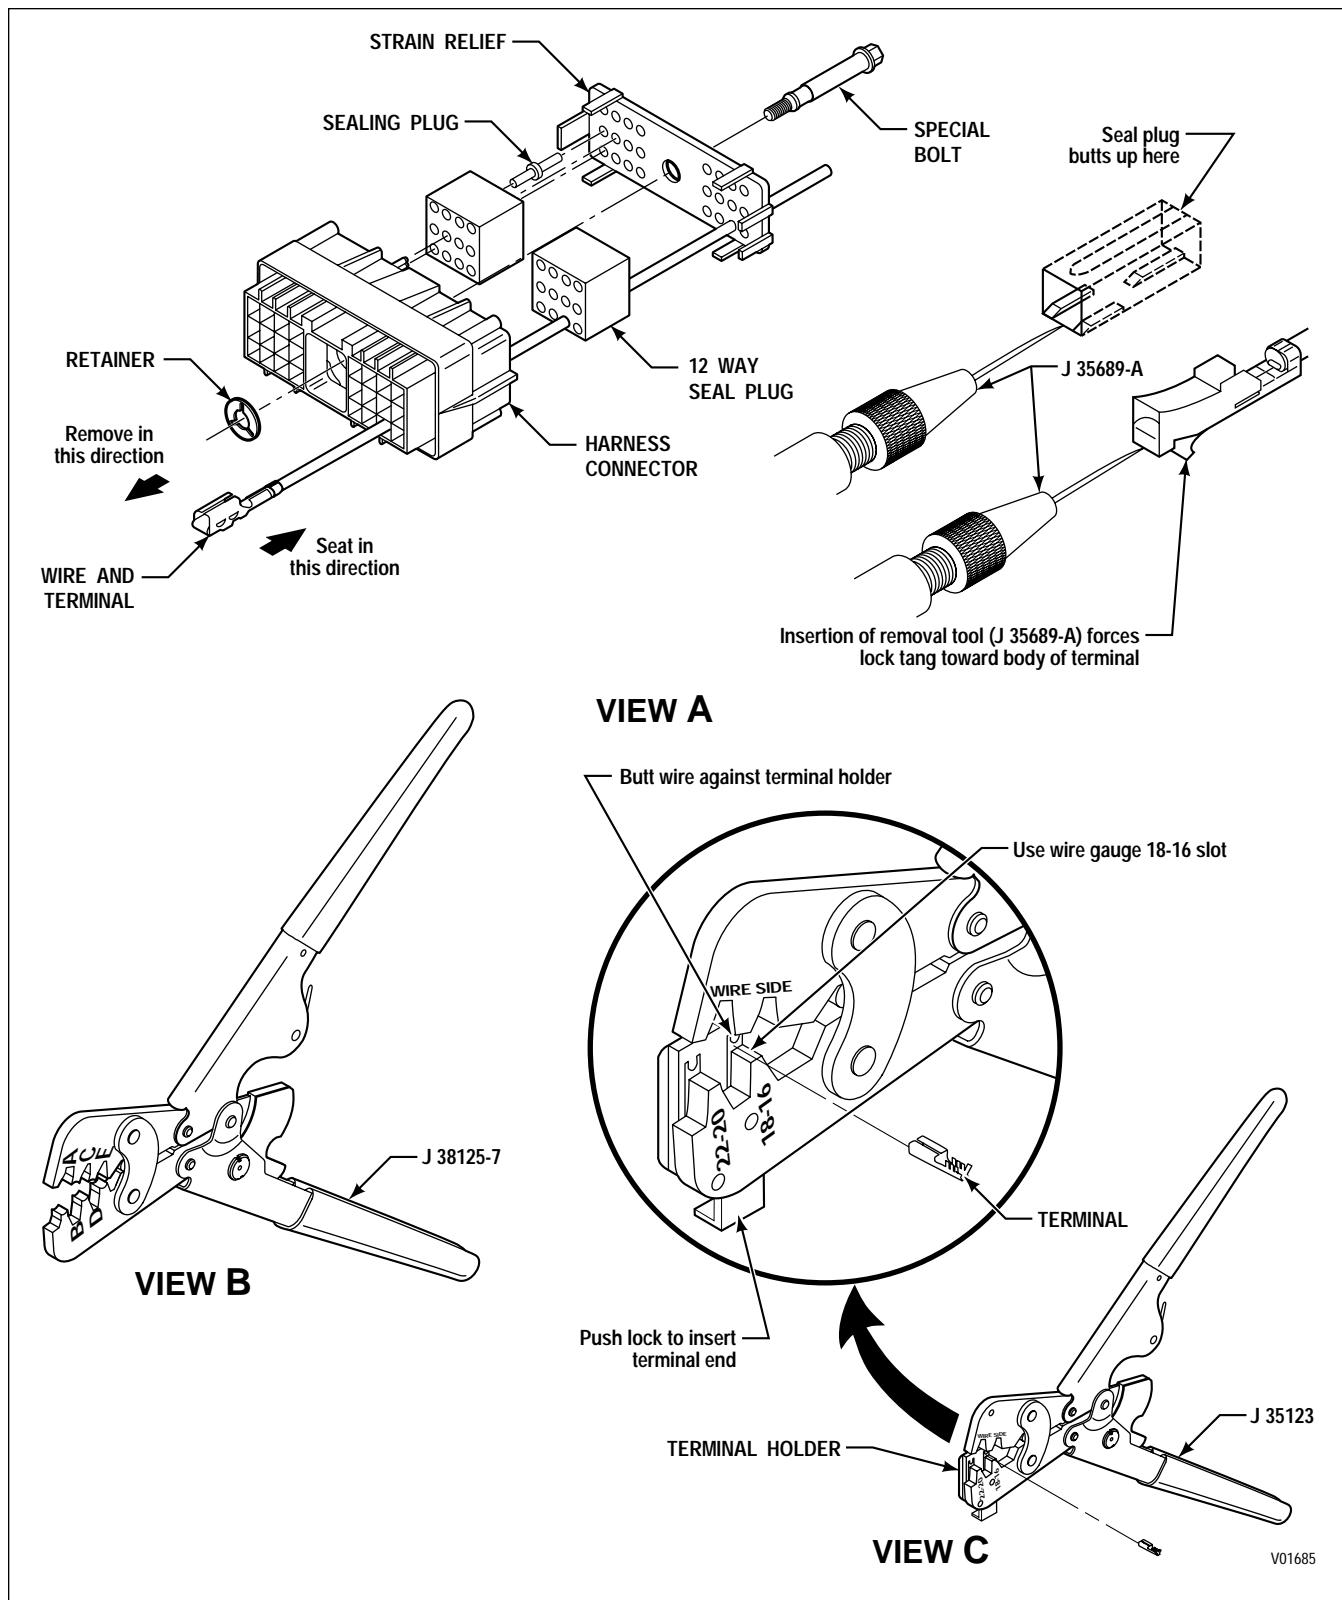

Figure E-2. Delphi-Packard Metri-Pack 150 Series Connectors — Pull-to-Seat
1. Insert needle end of terminal remover J 35689-A into the small notch between the connector and the terminal to be removed (Figure E-2, View A). Push the lock tang toward the terminal.
3. Place core crimp portion of terminal on bed of anvil "E" and squeeze crimper enough to keep terminal from dropping (Figure E-2, View B).
2. Insert remover tool in front side of connector to release locktab and push terminal out front of connector. Pull the terminal and wire out the front of the connector to complete Steps (3) through (7).
3. Push open the terminal holder on the crimper tool J 35123 and insert a terminal into the opening marked 18–16 (Figure E-2, View C) so that the crimp ends point up. Release the terminal holder.